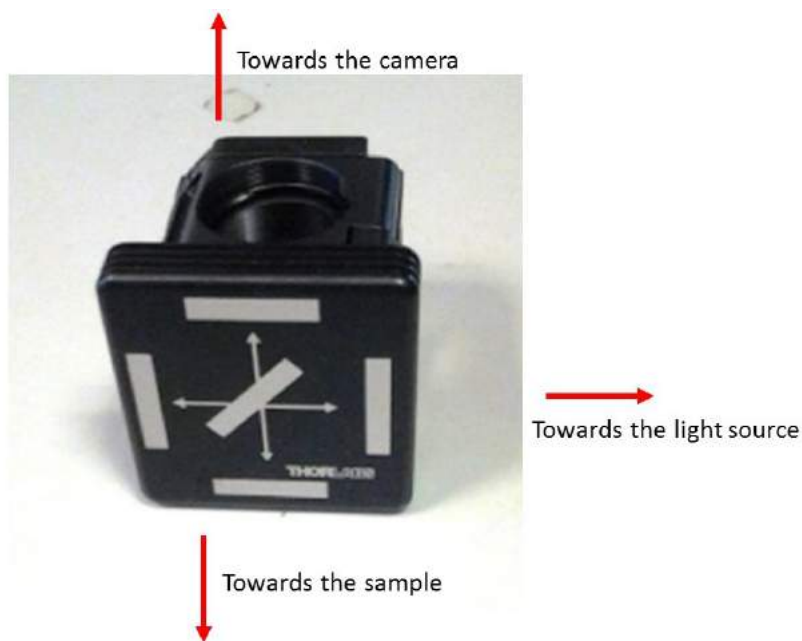

Figure 37: The top of the filter cube
4. Place the beam splitter into the recessed notch in the filter cube so that the surface with the item number engraved on it faces towards the light source and sample (see Figure 37 for orientation).
4. Identify the coated side of the beamsplitter, which has a caret pointing to it. Place the beam splitter into the recessed notch in the filter cube with the caret facing towards the light source and sample (see Figure 37 for orientation).